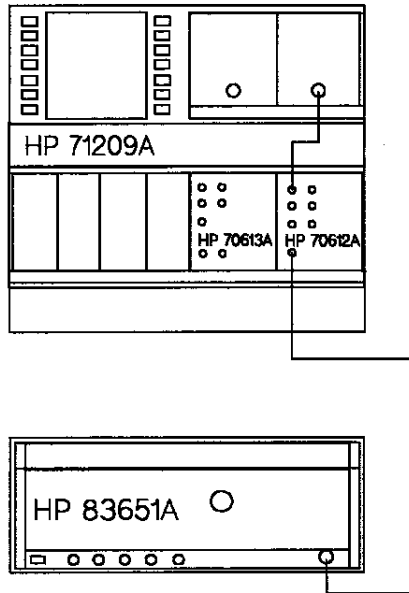

Figure 8-5. Isolation Test Setup
When measuring insertion loss >80 dB on the HP 70612C and HP 70613C options 003, 004 or 007, the Isolation test setup should be used. See Figure 8-5. Measure the desired path by connecting the HP 83651A synthesized sweeper to the input port and the HP 71209A signal analyzer front end to the desired output.
1. Connect the equipment as shown in Figure 8-5